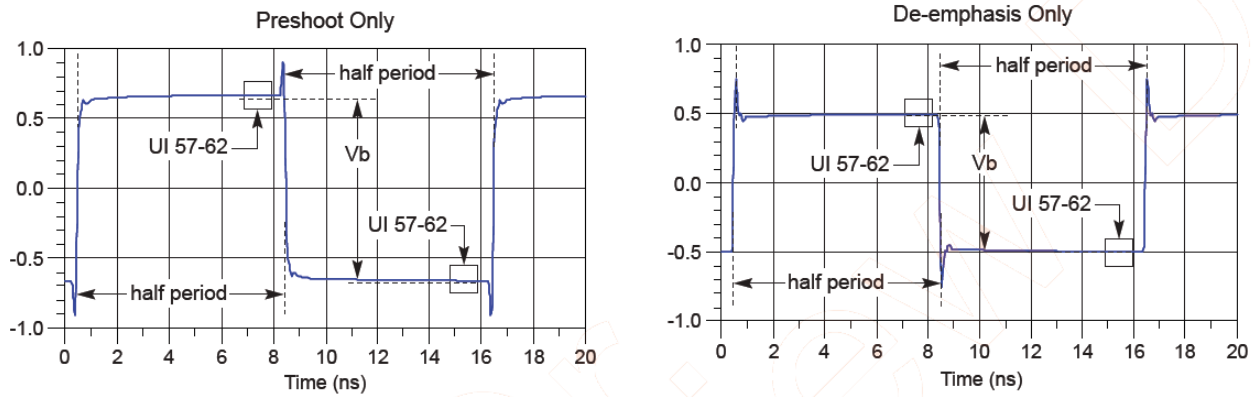

Figure 90 Waveform measurement points for pre-shoot and de-emphasis
8.0 GT/s and 16.0 GT/s PCIe signaling must support the full range of presets given in Table 8-1 of the PCI Express Base Specification, Rev 4.0. Presets are defined in terms of ratios, relating the pre-cursor and post-cursor equalization voltages. The pre-cursor ( $V_c$ ) is referred to as pre-shoot, while the post-cursor ( $V_b$ ) is referred to as de-emphasis. This convention permits the specification to retain the existing 2.5 GT/s and 5.0 GT/s definitions for Tx equalization, where only de-emphasis is defined, and it allows pre-shoot and de-emphasis to be defined such that each is independent of the other. The tolerances in Table 8-1 also apply to 2.5 and 5.0 GT/s de-emphasis. The maximum swing,  $V_d$ , is also shown to illustrate that, when both  $c_{+1}$  and  $c_{-1}$  are non-zero, the swing of  $V_a$  does not reach the maximum as defined by  $V_d$ . Figure 8-5 is shown as an example of transmitter equalization, but it is not intended to represent the signal as it would appear for measurement purposes. The high frequency nature of PCIe signaling makes measurement of single UI pulse heights impractical. Consequently all amplitude measurements are made with low frequency waveforms, as shown in Figure 90.